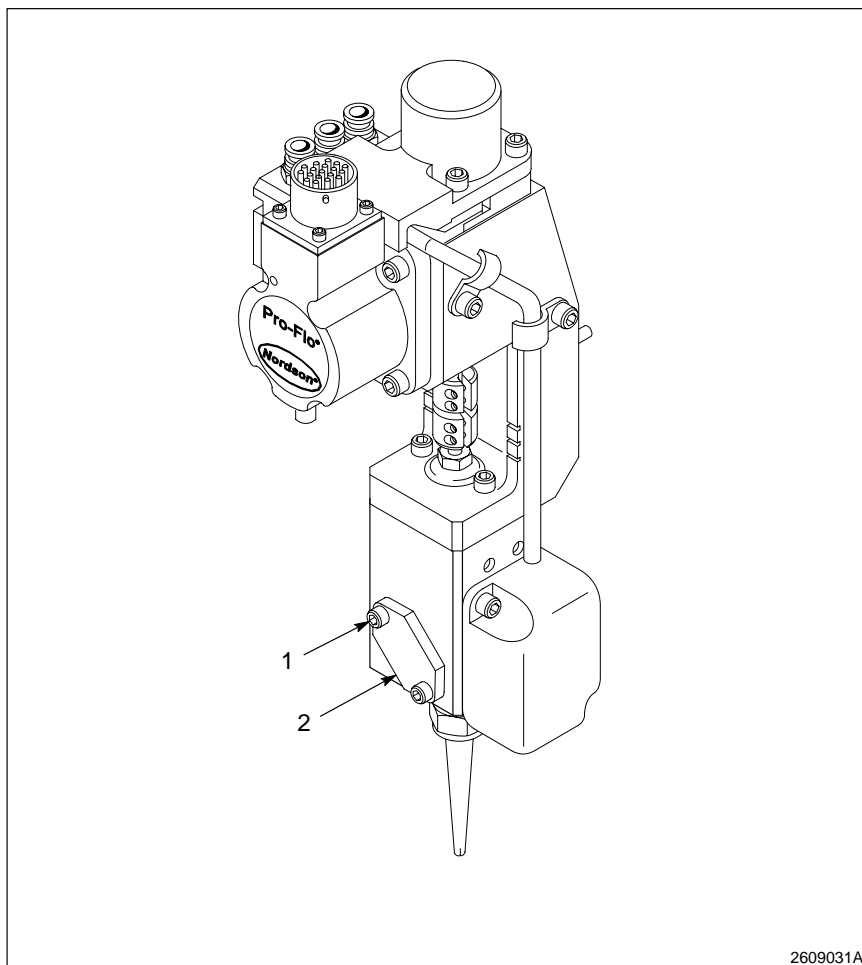

Fig. 6-11 MCO Plug
1. See Figure 6-11. Loosen the screws (1) in the MCO plug (2).